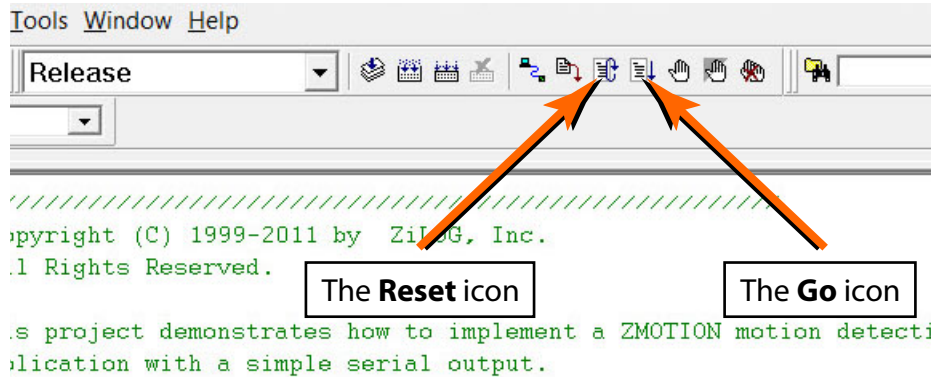

Figure 6. The Location of the Rest and Go Icons
5. Apply power to the Development Board by plugging in the USB cable and setting SW1 to the ON position. Next, click the **Reset** icon in ZDSII. Figure 6 indicates the location of both the **Reset** and **Go** icons in the ZDSII menu bar.